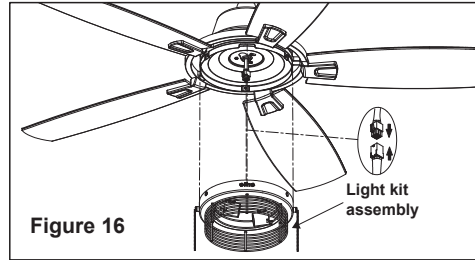

Figure 16
Step 9. Make sure to align the cutout on the switch housing with the reverse switch on the light kit assembly. Securely attach 9-pin connectors from motor assembly to the light kit assembly. Finally assemble the light kit assembly to the switch housing using the previously removed screws and securely tighten all three screws. (Figure 16)